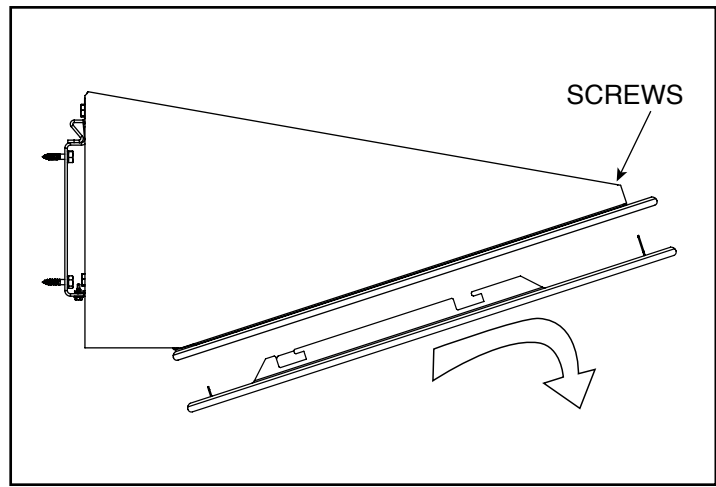

Figure 10 - Bottom Cover Removal
4. Re-install the cover and intake screen. **See Figure 10.**